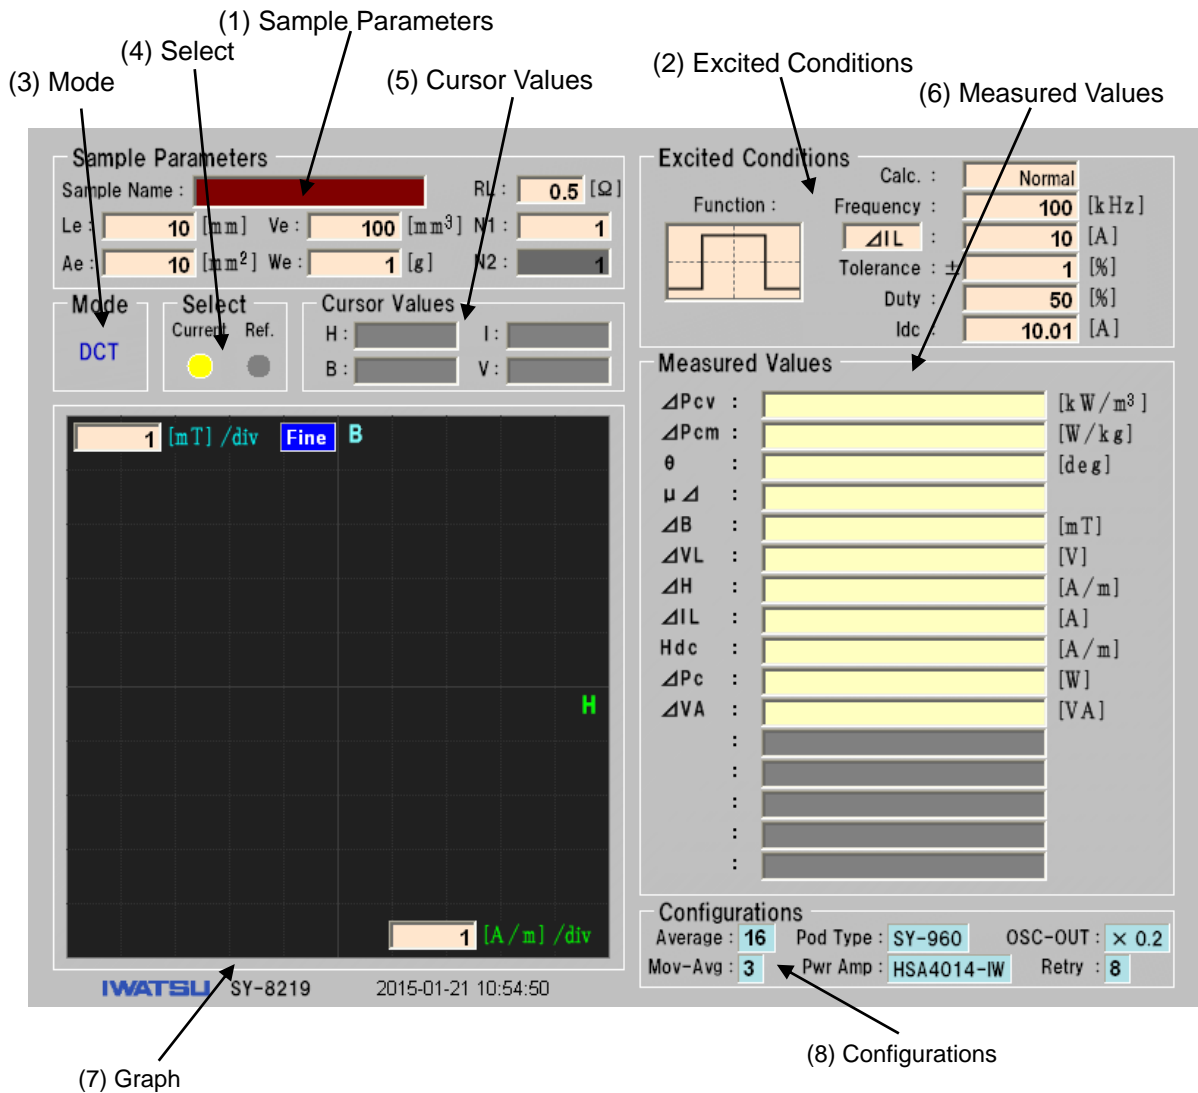

Fig. 4-20 Measurement screen
- (3) The DC Bias measuring mode screen will be displayed. (See Fig. 4-20)